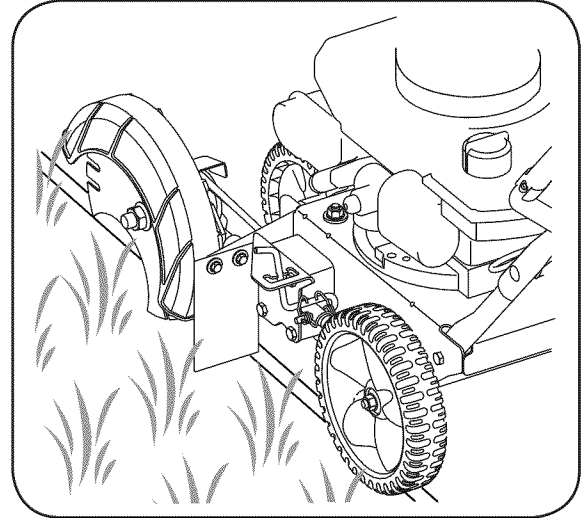

Figure 5-1: Edging example.
1. Move the unit over to the area to be edged, making sure that the left rear wheel is on a hard surface and the blade is over the area to be cut, Figure 5-1.